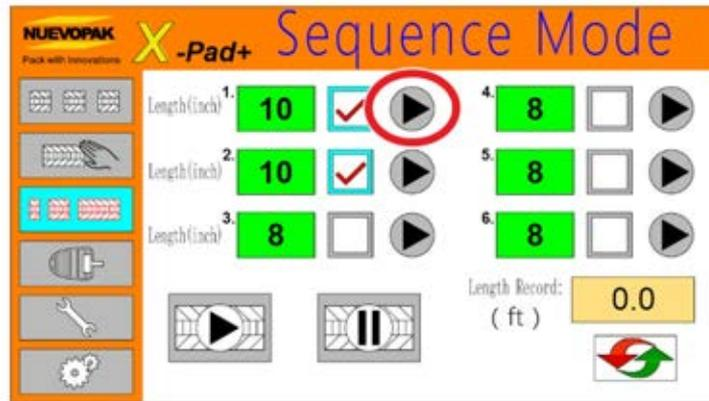

Figure 43 Individual Start Key - Sequence Mode
4. To dispense the sequence, press the **Start Key** (refer to Figure 43).